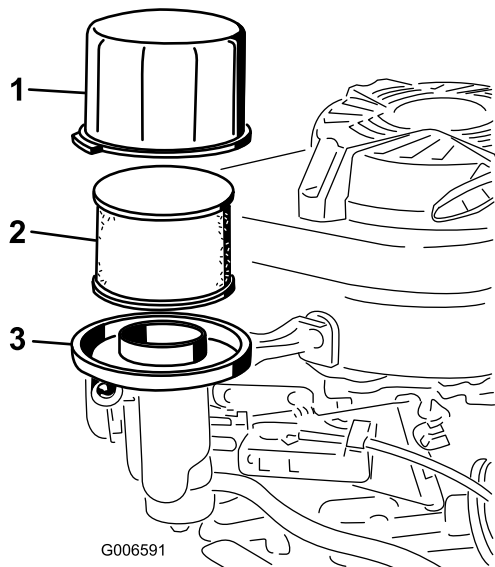

Figure 22
3. Remove the cover and clean it thoroughly (Figure 22).
4. Remove the foam pre-filter and paper filter (Figure 22).
5. Remove the foam pre-filter from the paper filter (Figure 22), and replace the paper filter if it is excessively dirty.